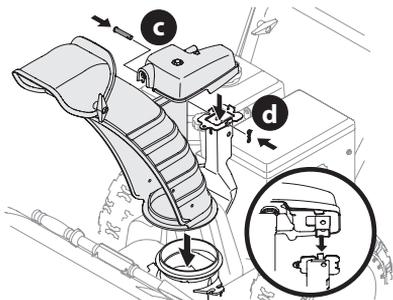

Figure 14
2. Secure chute control head to chute support bracket with clevis pin (c) and cotter pin (d) removed in Step 1 (Figure 14).